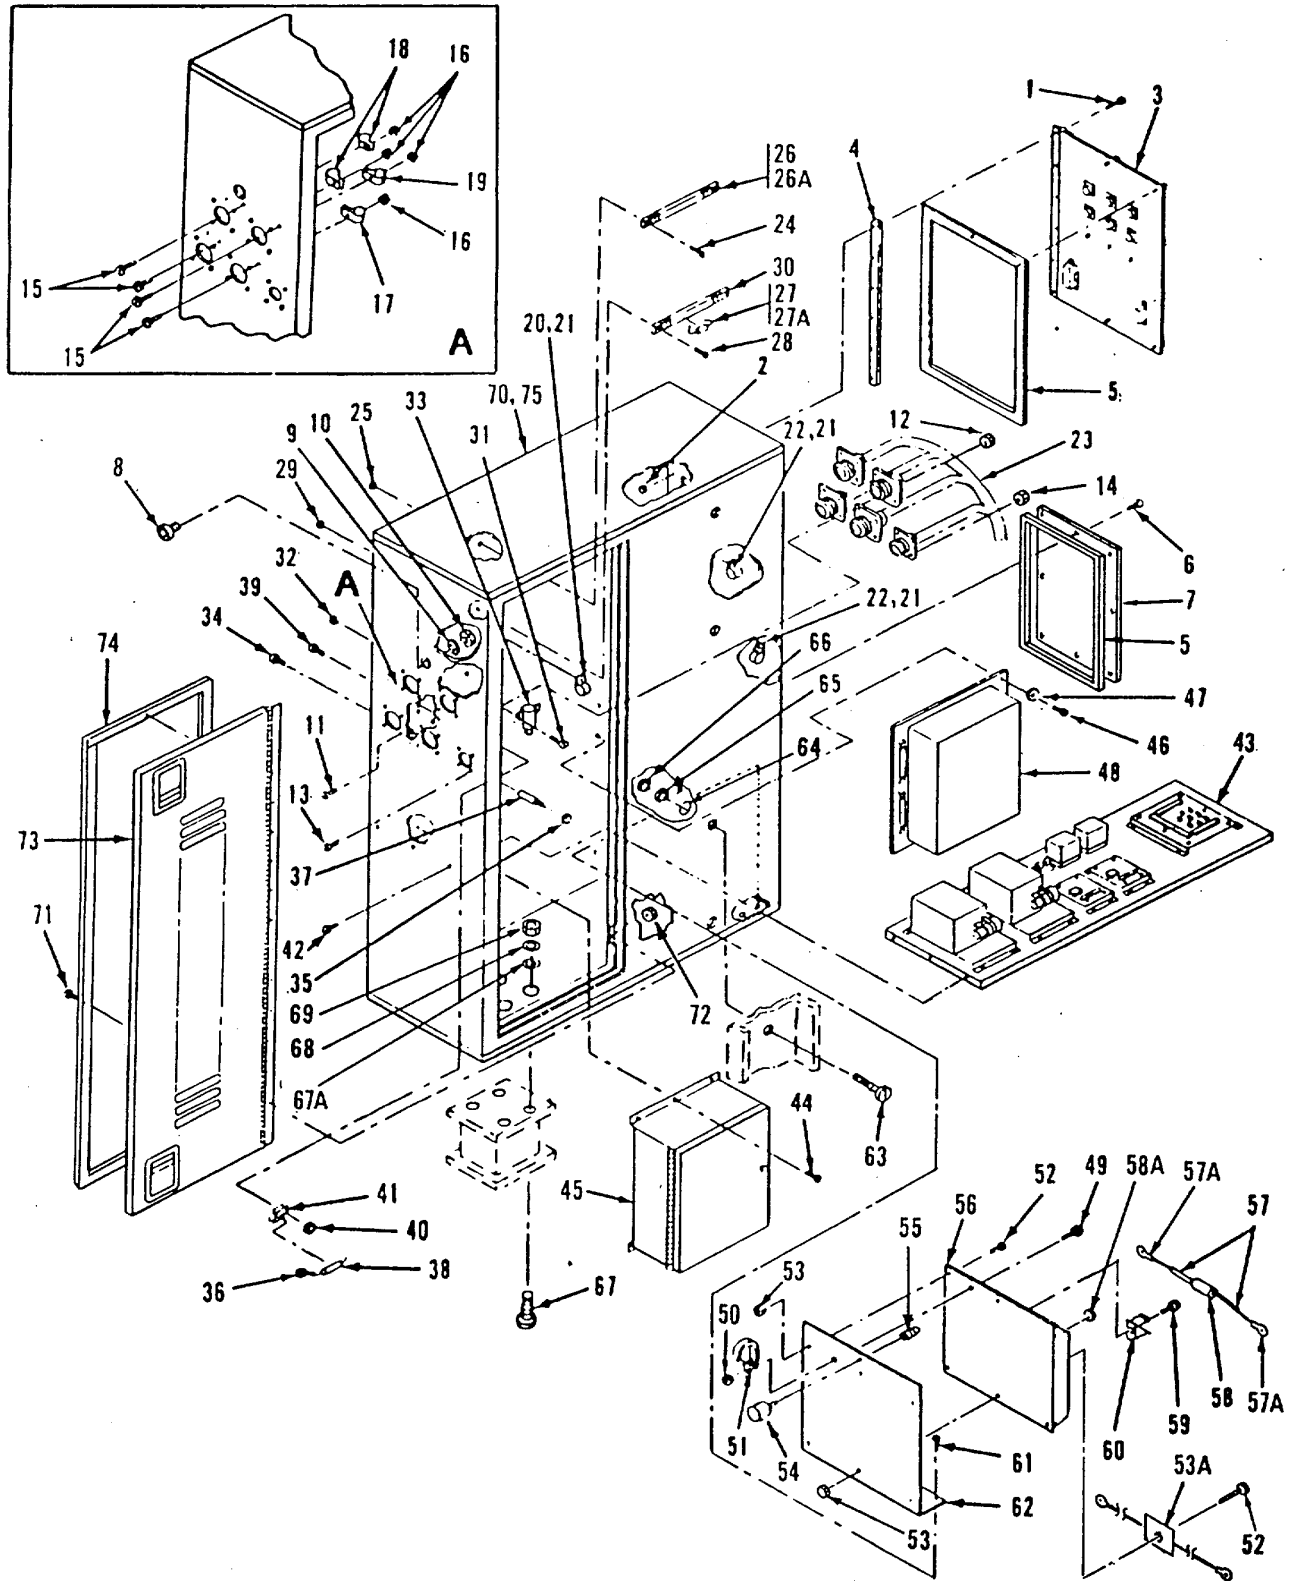
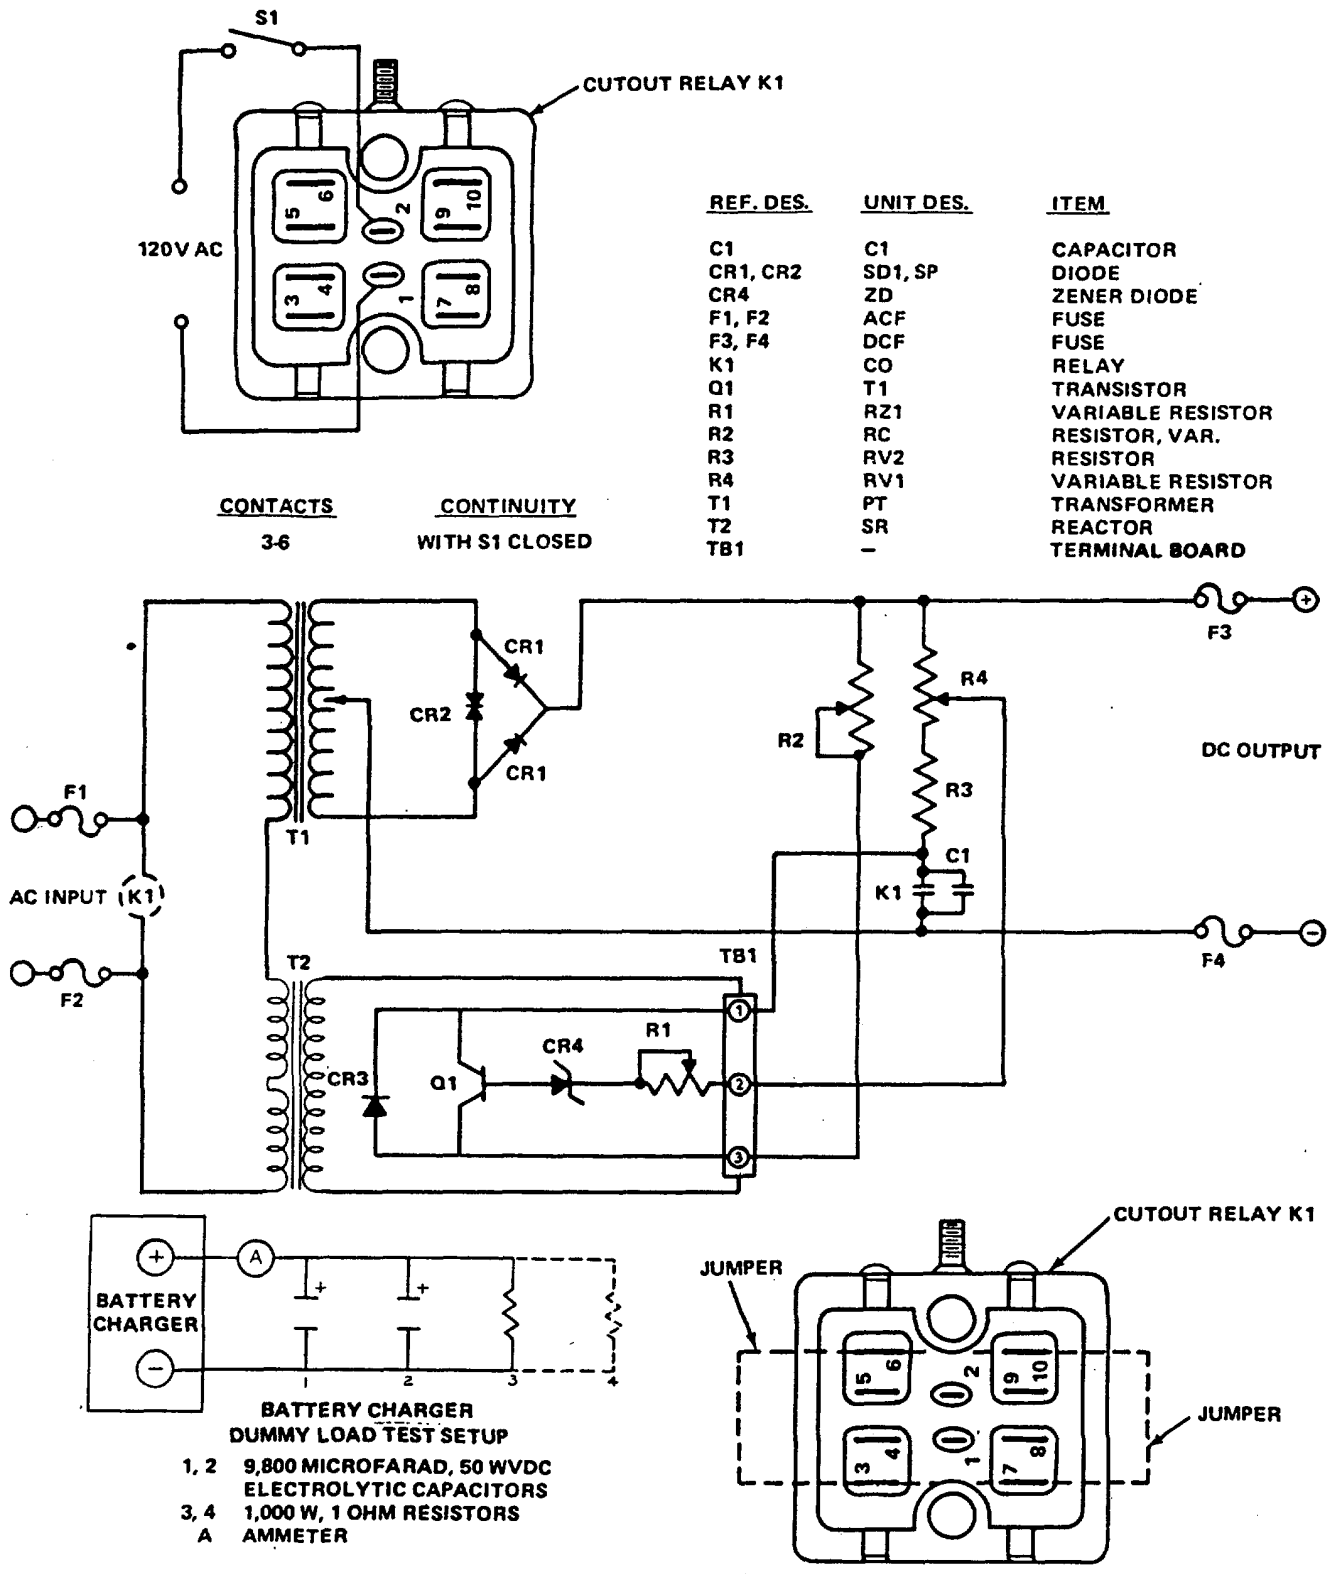
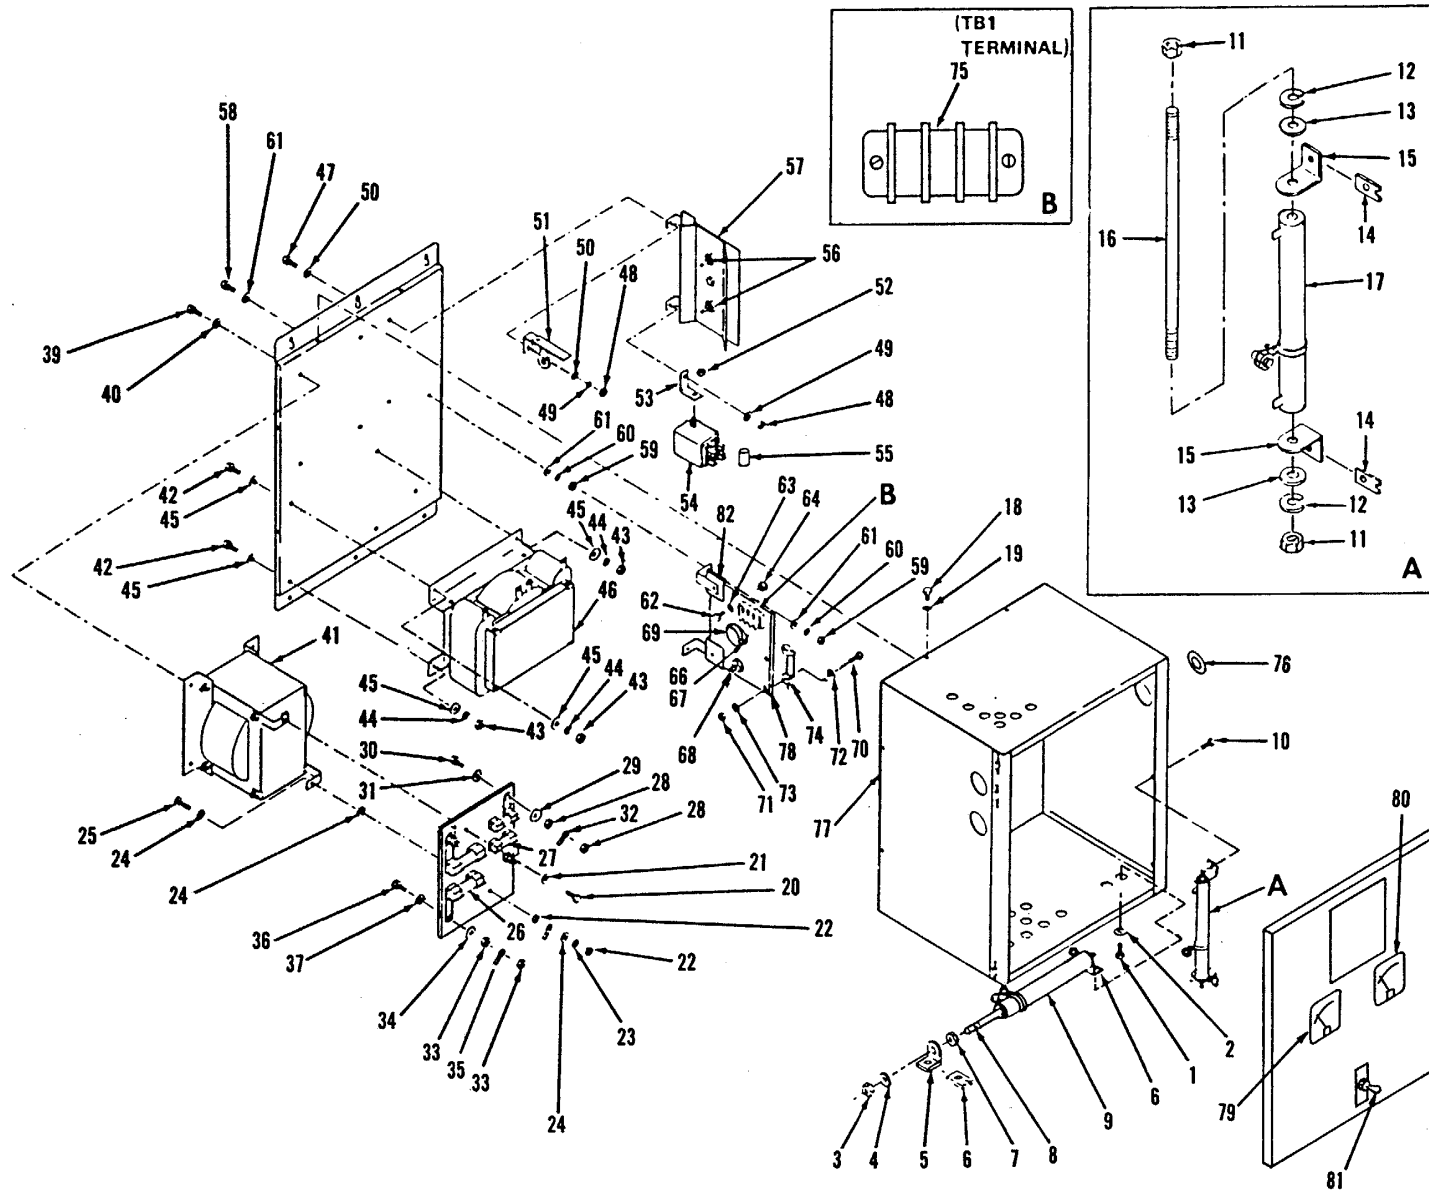

Figure 4-1. AC-DC Control Box Assembly, Exploded View
Figure 4-3. Battery Charger Schematic
Figure 4-4. Battery Charger, Exploded View
a. Replacement. (See figure 4-1.) The fuel transfer pump relay K20, (33, figure 4-1) is mounted on the right side wall of the AC-DC control box assembly. It is removed as follows:
**4-3. REPLACEMENT.** The six terminal boards (26 and 30, figure 4-1) are mounted on the right side wall of the enclosure (75). Replace as follows:
**Diode (28) may also be tagged and disconnected from terminal board (30) at this time.**
b. Replacement. Replace terminal board (26 or 30) on the enclosure side wall by attaching two screws (24) and nuts (25). Install diode (28) on terminal board (30) and remove tags.
**4-4. RESISTOR R116.** Resistor R116 (38, figure 4-1) is located on the right side wall of the enclosure (75).
a. Test. Disconnect either lead from resistor (38). With an ohmmeter (set Rx1 scale) measure resistance. It should be 5 ohms  $\pm$ 1 ohm. If not, replace.
- (1) Remove two nuts (35, figure 4-1) which secure resistor lugs (36) to the standoff (37). Then remove resistor (38) from clip (41) and separate lugs (36) from lead
a. Removal. (See figure 4-1.) The battery charger (45, figure 4-1) is mounted to the right side wall of the AC-DC control box assembly enclosure. Open door (73) and remove as follows:
#### **Legend For Figure 4-1**
- (1) Install battery charger (45, figure 4-1), to the enclosure with six screws.
- (2) Connect cables to terminals inside the battery charger. Be sure to observe polarity, POS and NEG on OUTPUT connections. Remove tags.
**4-9. TESTING.** (See figure 4-3) The ground test may be performed without removing the battery charger from the set. Other tests are bench test procedures.
- (1) With all power off, disconnect AC input power to INPUT connections on the unit. Disconnect the generator set negative battery cable.
- (2) Set ohmmeter scale on ohms Rx100.
- (3) Measure from either INPUT terminal to either terminal of the OUTPUT. Meter should not indicate a reading. If the meter reads full scale deflection, this indicates a
- (1) Test silicon diodes (CR1 and CR2) as follows:
- (2) Test zener diode (CR4) as follows (see figure 4-3):
c. Cutout Relay. Test the cutout relay (54, figure 4-4) as follows. See detail in figure 4-3.
- (1) Connect a 120V AC source with a SPST switch (S1) as shown.
- (2) With S1 closed, using an ohmmeter, check for continuity between contacts 3 and 6.
- (3) Open switch and disconnect 120V AC.
d. Transistor Control Circuit. (See figures 4-3 and 4-4.)
- (1) With power disconnect from battery charger, remove fuse F3. Connect a DC ammeter (0 to 50 amps) across fuse holder.
- (2) Connect 120V AC input power to battery charger and record ammeter reading. Remove input power.
- (3) Remove two wires from T2 (46, figure 4-4) and Q1 (68) connected to terminal 1 of TB1 (65).
- (4) Temporarily connect these two wires together using a jumper.
- (5) Connect 120V AC input power to battery charger.
- (6) Record ammeter reading. If the reading is higher than reading recorded in step (2), the transistor control circuit may be defective. Check CR4 (69), (paragraph b(2), above) and check for open resistor R1 (74). If CR4 and R1 are not defective, replace transistor Q1 (68).
- (7) Remove ammeter from fuse
- (1) Connect input of battery charger to 120V AC and output to two capacitors (1 and 2) and one resistor (3) in parallel (see figure 4-3).